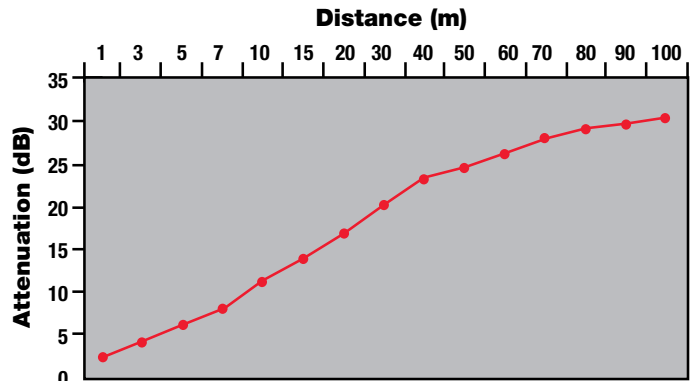

Figure 7: Reduction of sound over distance
5. Maximizing distance – When there are no reflecting walls to magnify the noise produced by the generator set, the noise level will decrease by approximately 6 dB(A) every time the distance is doubled (see Figure 7). If the property line is within the near field of a generator set, however, the noise level may not be predictable. A near-field environment is any location within twice the largest dimension of the noise source (generator set).